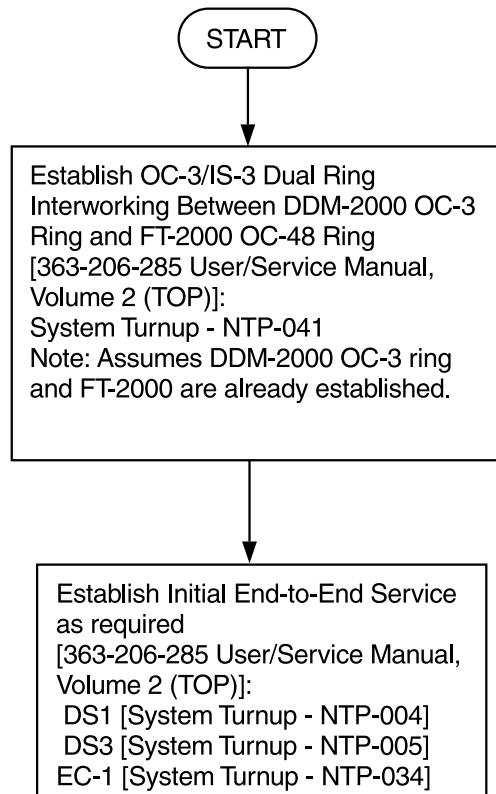

Figure 20. DDM-2000/FT-2000 Large Network Configurations — OC-3/IS-3 Dual Ring Interworking Between DDM-2000 OC-3 Ring and FT-2000 OC-48
- Figure 20 OC-3 Dual Ring Interworking - FT-2000 OC-48 Ring to DDM-2000 OC-3 ring